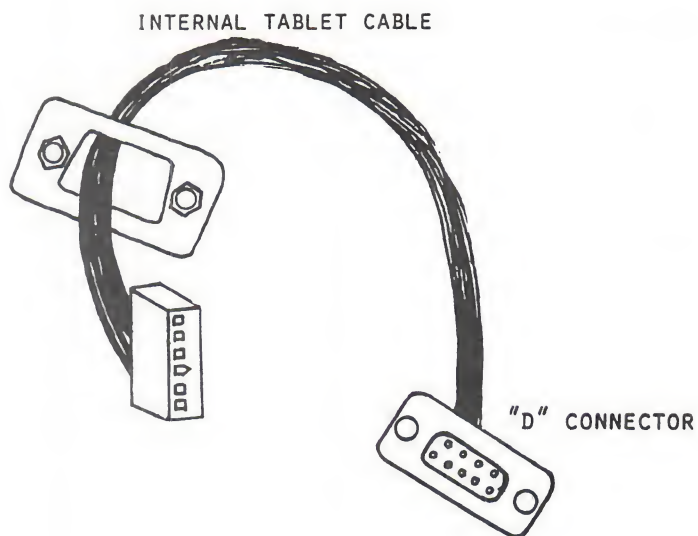

FIGURE 3
3. Now find the internal tablet cable and put its slip-on connector through the nut plate, with the nuts facing away from the "D"-shaped connector (See Figure 3).
4. Now find the internal tablet cable (see Figure 3). It has a slip-on connector with six small holes on one end. Slide the slip-on connector through the other nut plate, making sure that the nuts are facing away from the "D"-shaped connector.